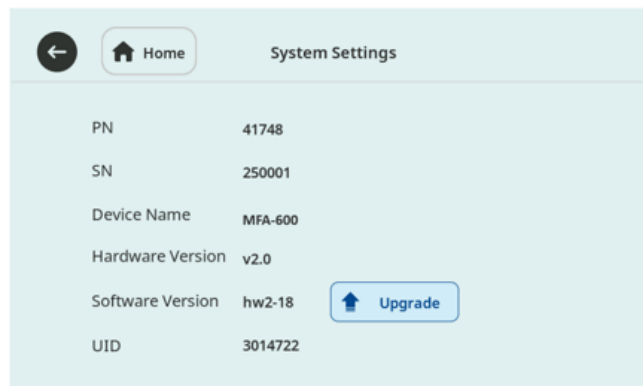
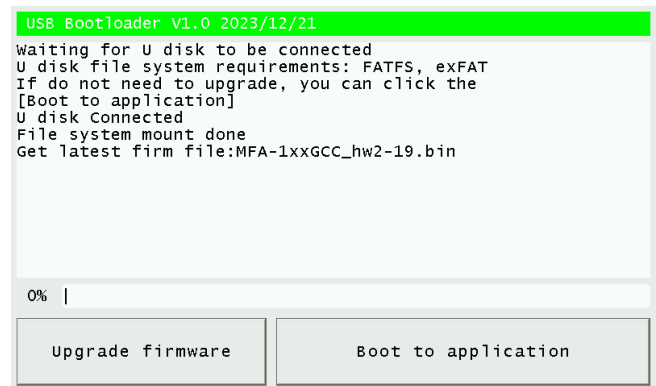

Figure 46
Figure 47
4. Tap the  **Upgrade** button to initiate the upgrade process, as shown in Figure 46. The system will switch to **boot mode**, as shown in Figure 47.
To configure the system's time, go to the **System Settings** screen, as shown in Figure 46. Then, **swipe down** to reveal the **Date & Time** section.
To change the password for a different role, first log in with that role and go to the **System Settings** screen, as shown in Figure 46. Then, swipe down to reveal the **Password** section.